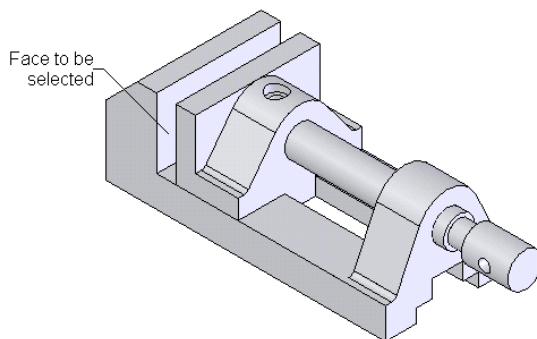

Figure 10-65 Face to be selected
- After analyzing the assembly, apply the required mates to constrain all degrees of freedom, refer to Figures 10-65 and 10-66.
12. Select the two faces, one of the Vice Body and the other of the Jaw Screw, as shown in Figures 10-65 and 10-66.